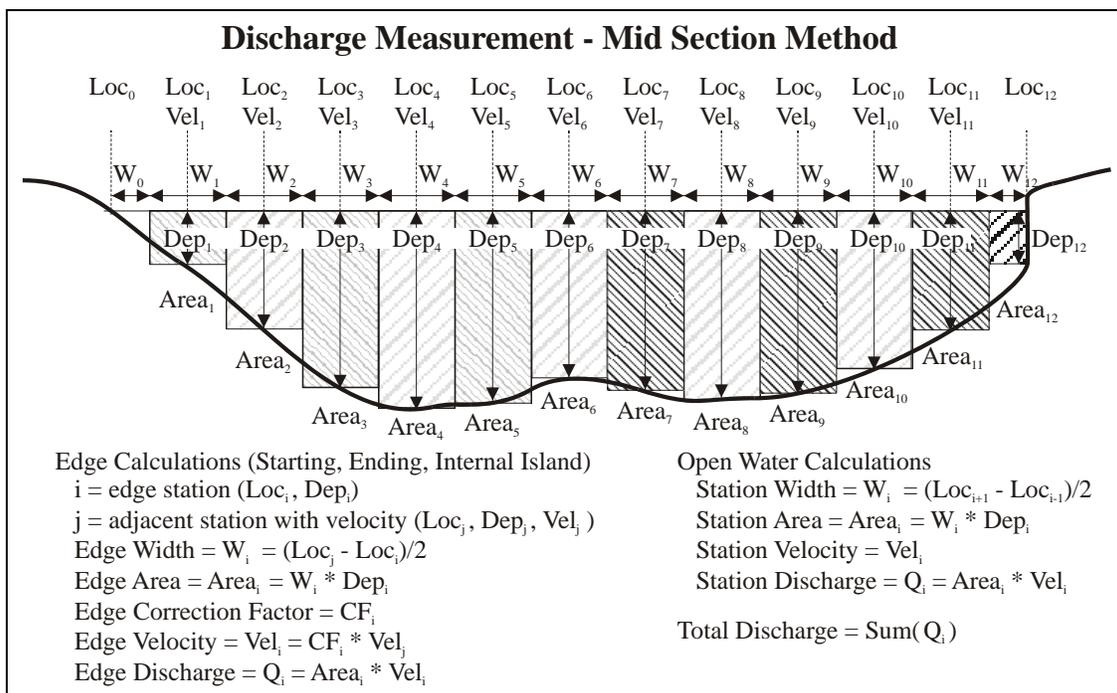

Figure 2 – Mid Section Discharge Equation
- Mid section equation (Figure 2)